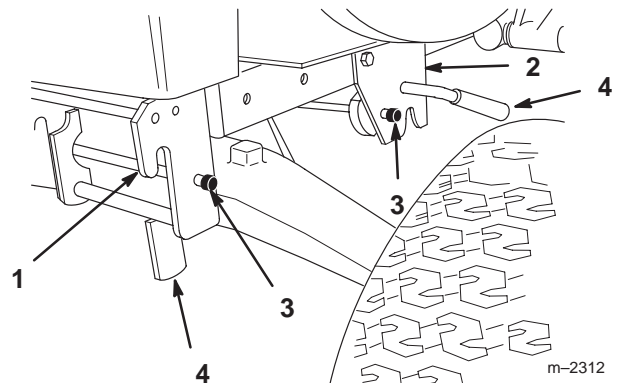

Figure 4
3. Open front and mid-mount hitches by pushing release button and moving lock handles forward (Fig. 4).